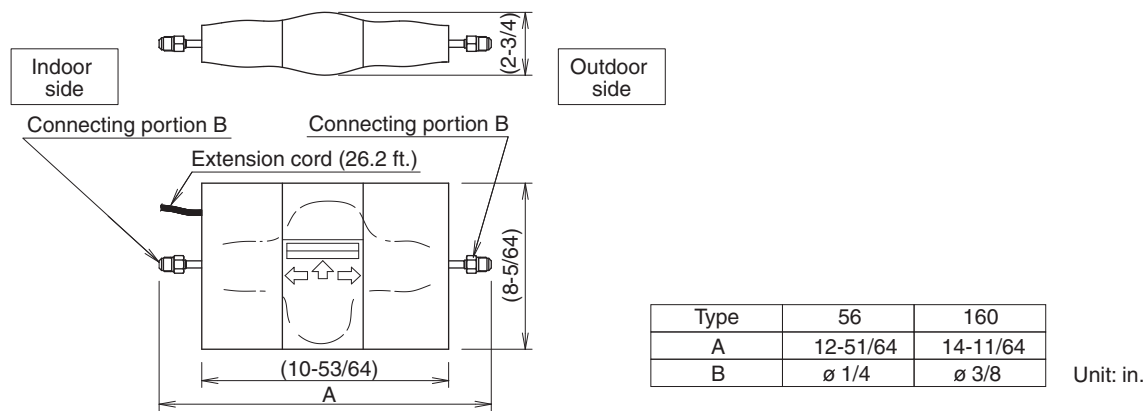

Fig. 3-170
- The valve should be connected to the liquid tube. Determine the position for installation referring to the diagram of outer dimensions. (Fig. 3-170) Refrigerant-flow noise may occur from the external electronic expansion valve. As a guide, the distance from the indoor unit should be a minimum of 16.4 feet, but less than 26.2 feet. (Install away from locations where strictly quiet operation is required.)